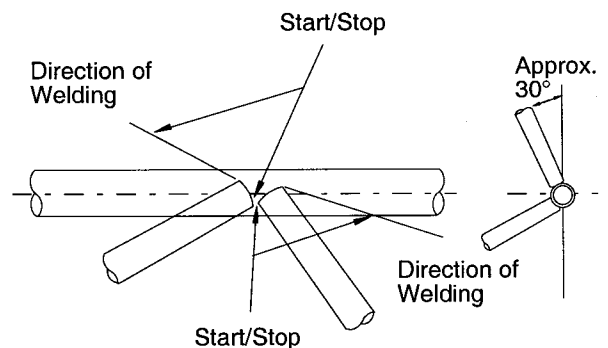

Figure 2
6.5 Position the boom section so that the lacing are welded in a flat position, within the limits shown in the following figure (see Figure 2).
(1) See Section 8.0 for approved electrodes. Electrodes must meet the requirements of A.W.S. A5.5, latest revision.
6.7 Lacing shall be welded from toe to heel for one-half of the lacing and from heel to toe on the second one-half of the lacing (see Figure 2).